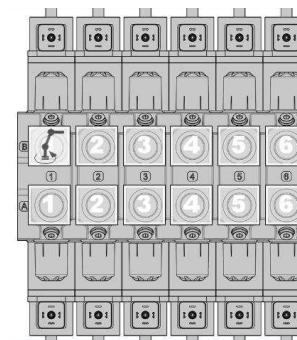

Figure 63. Allocation of function.
3. Move the cursor, without releasing the mouse button, to the destined position on the valve block, see Figure 63.